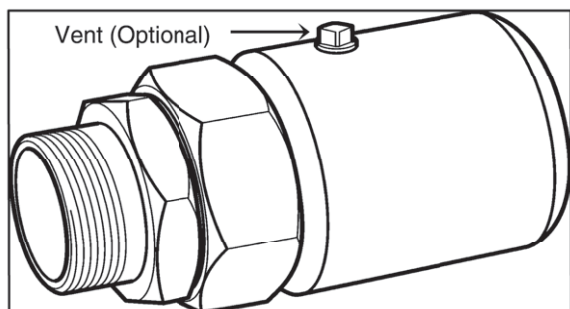

Figure: 4-46
- **TracPipe® PS-II fittings** are constructed from **TracPipe® CounterStrike®** patented **AutoFlare®** fittings with a plastic containment coupling and 1/4 inch NPT vent port. Fittings assemble without special tools. Figure 4-46